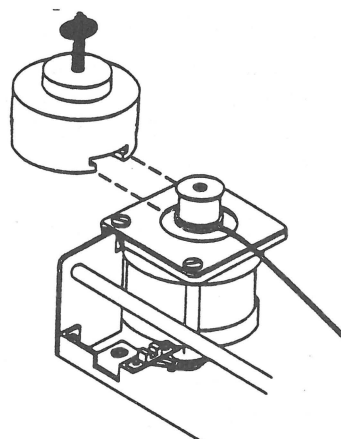

FIGURE 4
13. Slide the pulley remover onto the top of the pulley (see Figure 4) and turn the screw clockwise until the pulley is free.